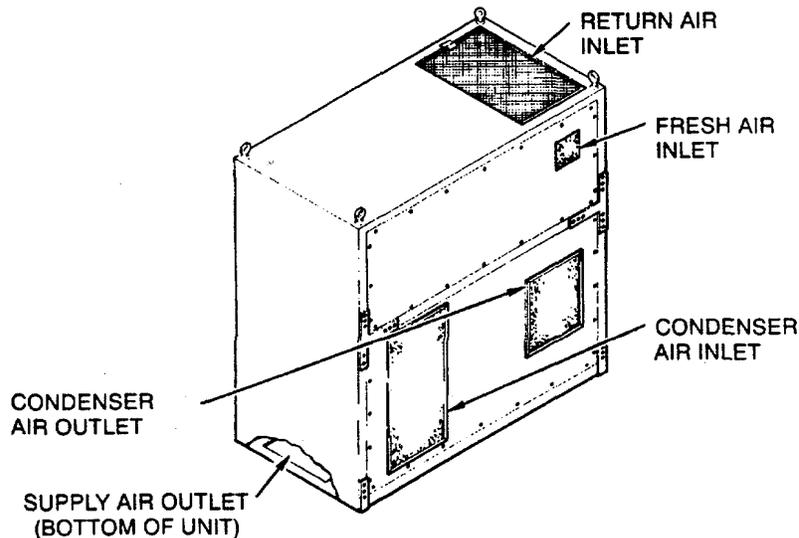

Figure 2-2. Air Inlets and Outlets
- (1) Perform the before (B) operator preventive maintenance checks and services listed in Table 2-1.
- (2) Check to see that the power cable has been connected from a source of 208 V ac, 3-phase, 50/60 hertz power to the input power connector on the unit.
- (3) Check that the following air inlet and outlet openings are clear (Figure 2-2):